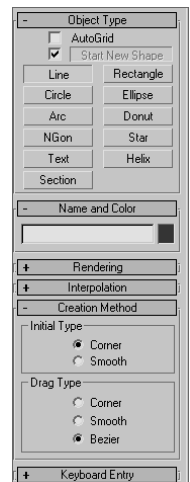

Figure 4.68
1. Make sure you are in the Left viewport, so you can see which side of the dresser the drawers are on. You are going to create a profile of half the knob, as shown in Figure 4.68. Don't worry about creating all the detail in the knob because detail won't be seen; a simple outline will be fine.
3. In the Left viewport, click once to lay down a vertex for this line, starting at the bottom of the intended profile for the knob. This is the starting point for the curve. When you are creating a line, every click lays down the next vertex for the line. In essence, the vertex controls the position of a point of the line. If you want to create a curve in the line, click once and drag the mouse in any direction to give the vertex a curvature of sorts. This curve vertex creates a curve in that part of the line. You will need to follow the rough outline of a knob, so click and drag where there is curvature in the line. Once you have laid down your first vertex, continue to click and drag more vertices for the line clockwise until you create the half-profile knob shape shown in Figure 4.68. Figure 4.69 shows the profile line with the vertices numbered according to their creation order.